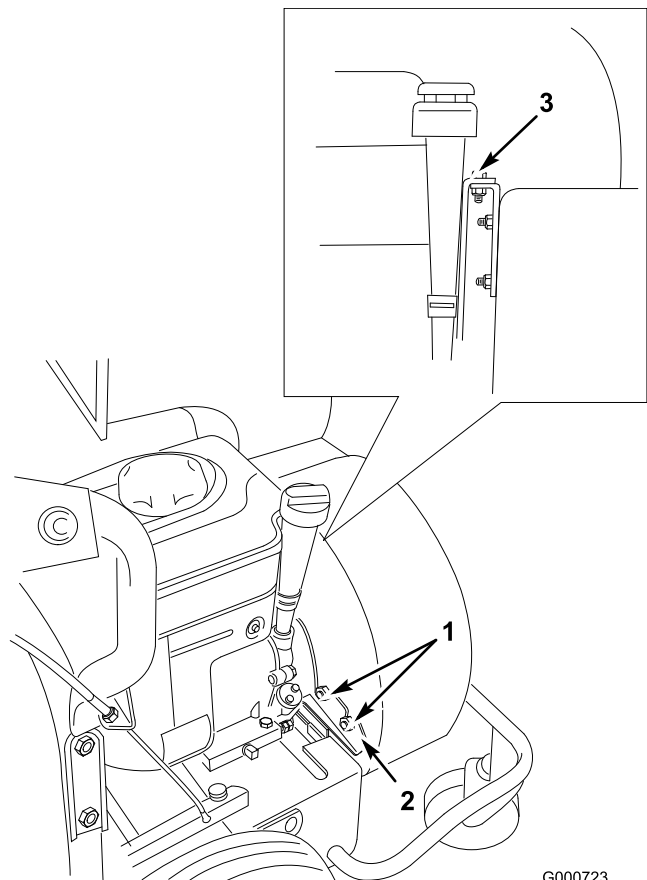

Figure 34
8. Loosen the two locknuts securing the blower housing to the stabilizer bracket (Figure 34).
9. Remove the bolt securing the blower housing and lift the housing as much as the impeller allows (Figure 34).